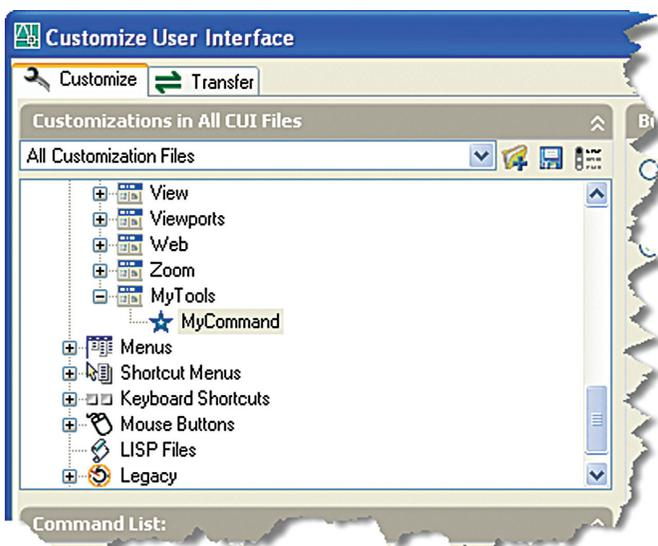

Figure 6
23. Now drag the command onto the MyTools toolbar and let go of the left mouse button (see Figure 6).